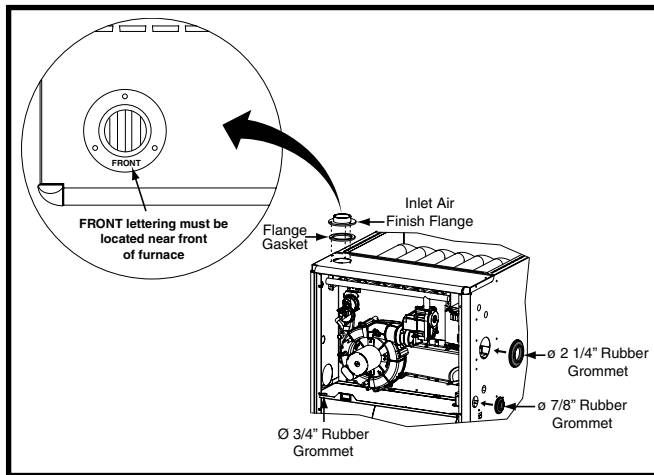
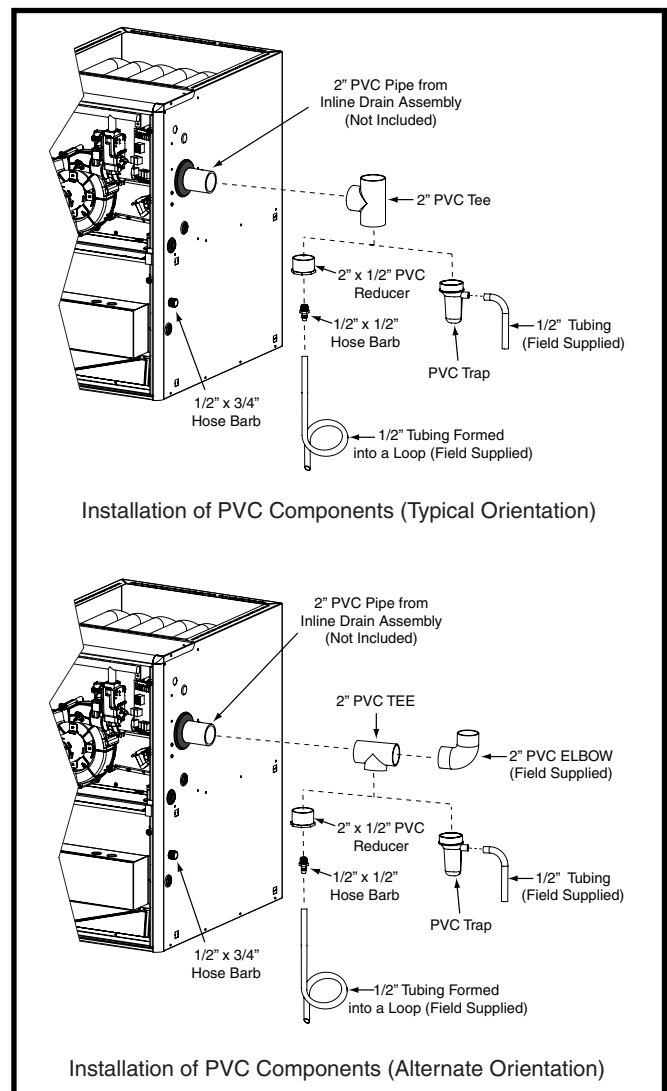

Figure 16. Finish Flange & Rubber Grommets
Figure 17. PVC Components
The components in Figure 16 & Figure 17 (page 19) are included in the extra parts bag supplied with the purchase of *TC / *TL furnaces. Depending on your particular installation, some of these components are optional and may not be used. Please refer to the descriptions and accompanying figures when installing these items.
NOTE: Make sure the flange is properly oriented so that the FRONT lettering is located near the front of the furnace as shown in Figure 16.
The 2 1/4" rubber grommet is used to seal the opening between the furnace cabinet and the 2" PVC vent pipe. The rubber grommet should be installed in the 3" hole prior to running the vent pipe out of cabinet. No sealants are required. See Figure 16.
- The 2" PVC pipe shown in Figure 17 is not provided in the extra parts bag.
The 2" PVC Tee and Trap shown in Figure 17 are used when the inducer is rotated to vent out thru the left or right side of the furnace cabinet.
1. Install the PVC Tee vertically on the 2" vent pipe that is extending out the side of the cabinet. Permanently bond them together using appropriate primer and cement. Refer to the typical orientation shown in Figure 17.
1. Install the 2" PVC Tee horizontally on the 2" vent pipe that is extending out the side of the cabinet. Permanently bond them together using appropriate primer and cement. Refer to the alternate orientation shown in Figure 17.